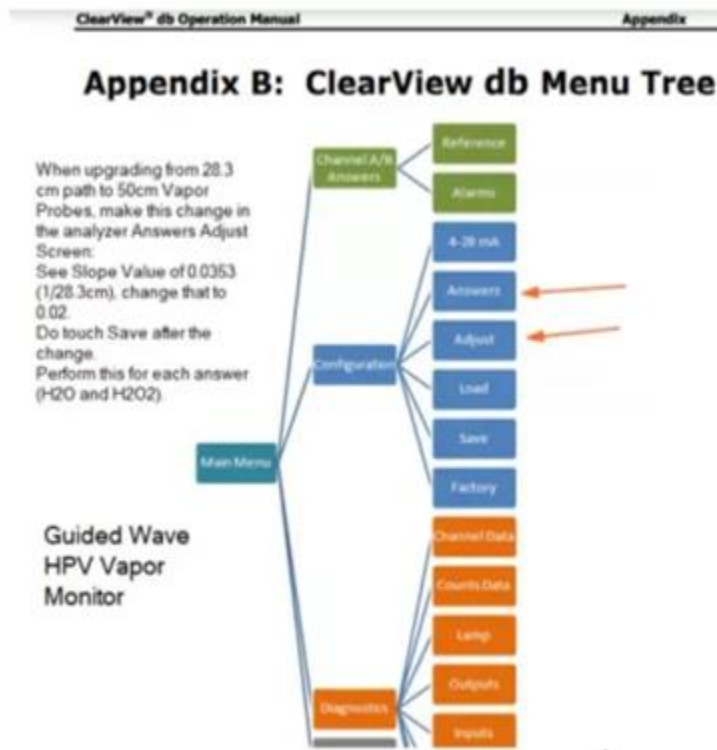

Figure 1: Appendix B ClearView db Menu Tree
**A:** Since the new 50 cm probe and the currently installed older style (28 cm) probe use the same sanitary flange size and are about the same physical length, you need to follow the setup changes as described in Appendix B of the HPV ClearView db manual to correct for the increase in optical pathlength. See Figure 1 below.